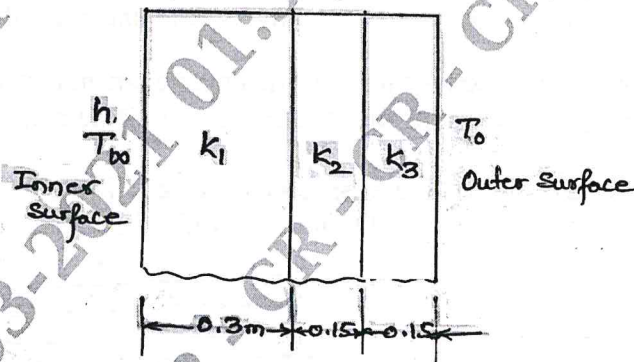

Fig Q8(b)
b. Compute the temperature distribution in the composite wall Fig Q8(b), using 1D heat elements. Use penalty approach of handling boundary conditions. Data:  $K_1 = 20\text{ W/m}^2\text{C}$ ;  $K_2 = 30\text{ W/m}^2\text{C}$ ;  $K_3 = 50\text{ W/m}^2\text{C}$ ;  $T_\infty = 800^\circ\text{C}$ ;  $h = 25\text{ W/m}^2\text{C}$ ;  $T_0 = 20^\circ\text{C}$ .